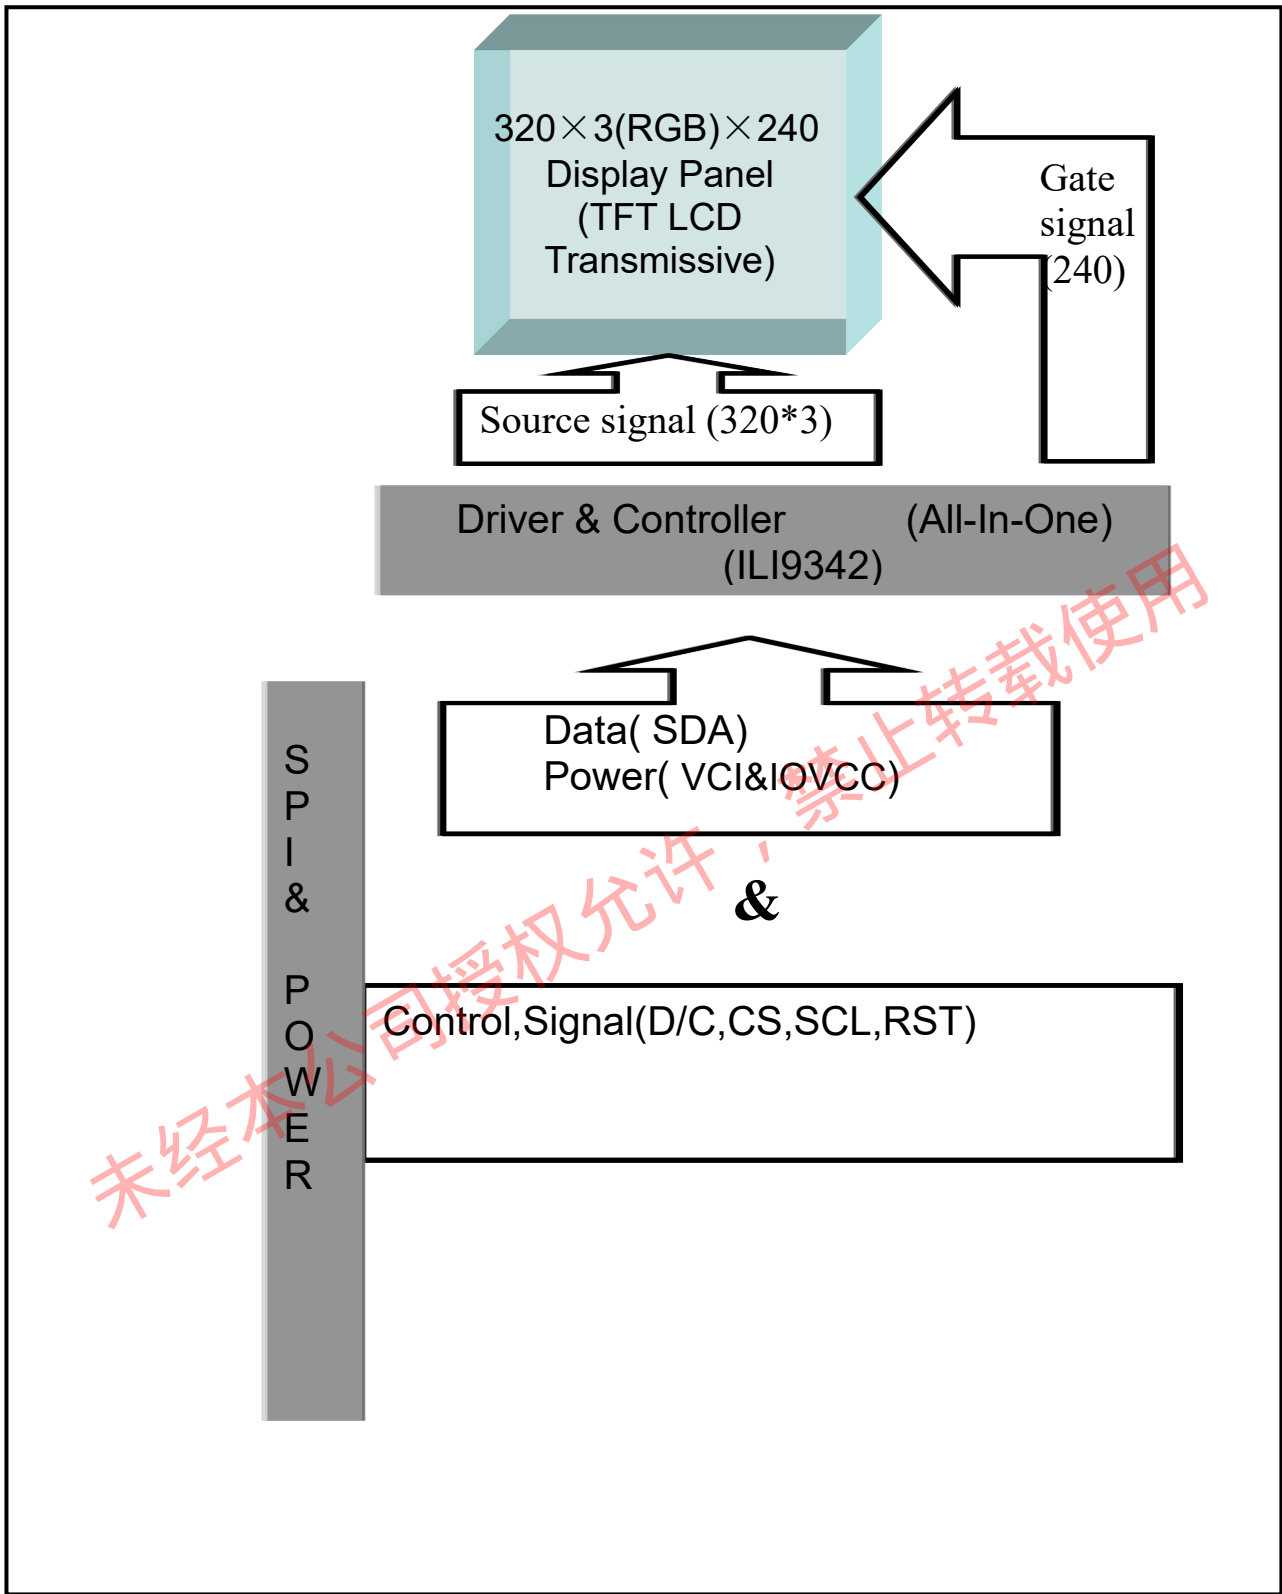

## FIG. 3 The definition of Viewing Angle
- 4. Viewing angle is the angle at which the contrast ratio is greater than 10. The angles are determined for the horizontal or x axis and the vertical or y axis with respect to the z axis which is normal to the LCD surface. For more information see FIG 3.